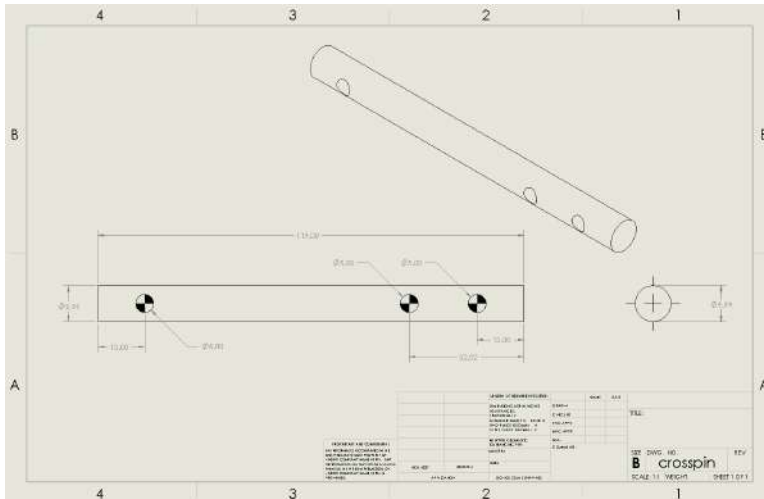

Figure 9: Crosspin drawing
2. Using a 5mm bit, on the mill drill three holes in the crosspin in the locations illustrated in figure 9.